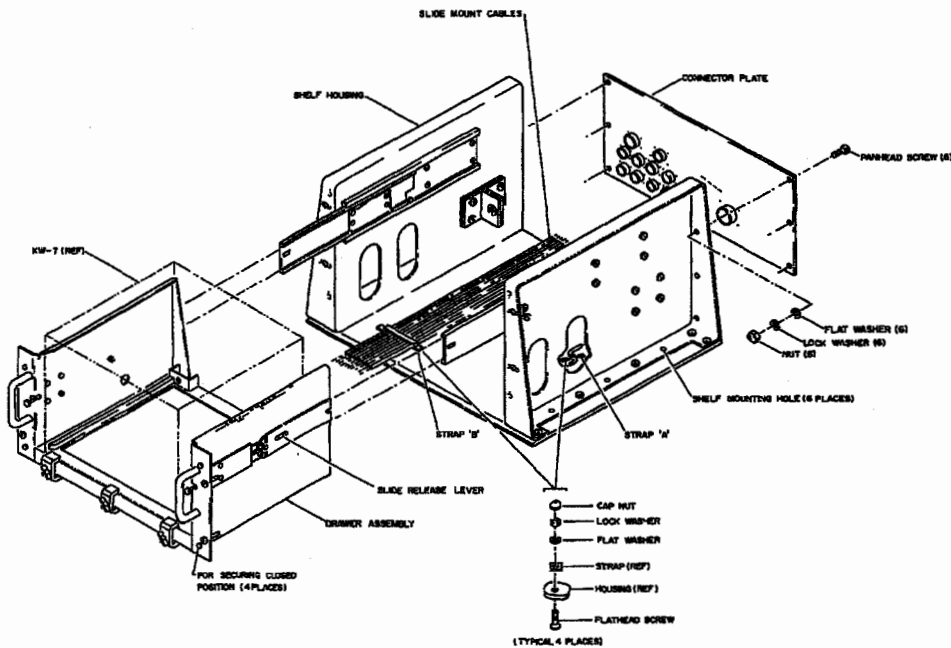

Figure 3-11.—Pivotal Slide Mount, Shelf Type Mounting.
- g. *Pivotal Slide Mount, Shelf Type Mounting (fig. 3-11).*—Installation of the KW-7 on the shelf type mounting of the pivotal slide is accomplished by assembling the mount and then securing the unit to the mount.
- (c) *Connector plate installation (fig. 3-11).*—Position the connector plate on the rear of the housing and secure it with six panhead screws, flat washers, lock washers and nuts.
- (d) *Drawer installation (fig. 3-11).*
- (2) *KW-7 Installation on mount (fig. 3-11).*—The procedures for installing the KW-7 on the shelf type mounting are the same as for the rack type mounting (refer to paragraph 3104f(3)).